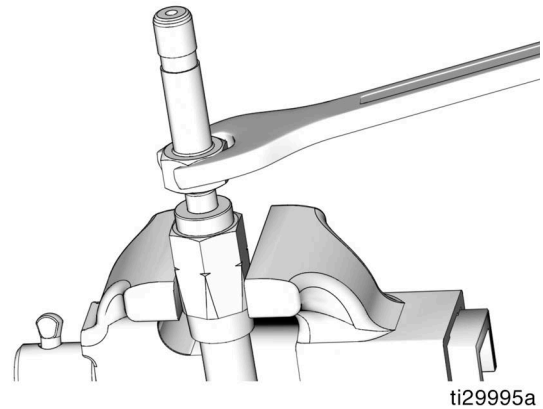

FIG. 6: Hose Stud Installation
13. Install the swivel fitting (FIG. 5) or hose stud (FIG. 6). Use a wrench to turn the swivel fitting or hose stud clockwise until the bottom is touching the top surface of the hose sleeve.